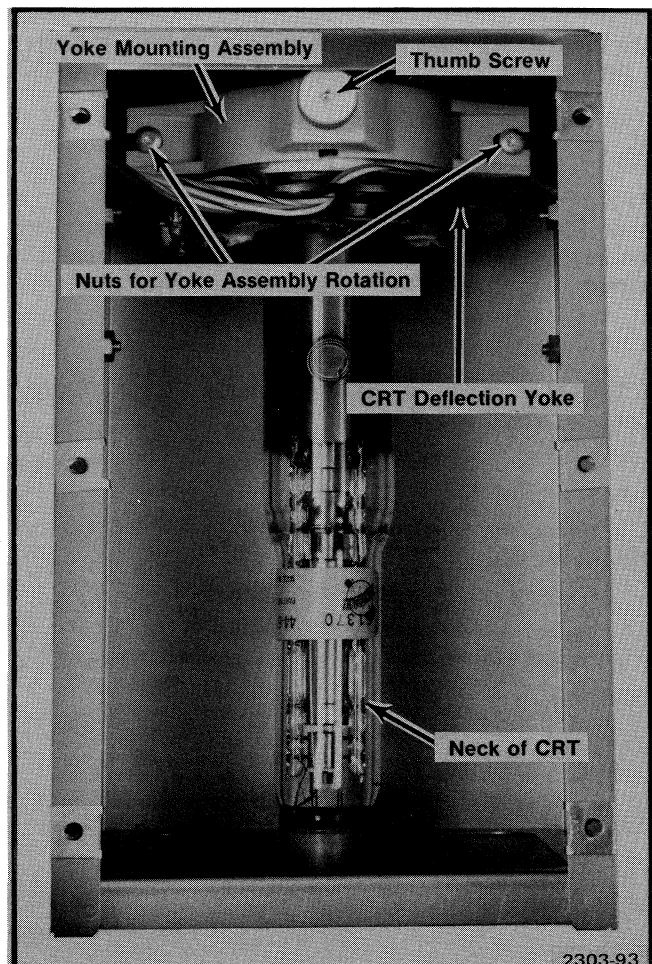

Fig. 4-20. Deflection Yoke Assembly.
c. Loosen (do not remove) the single knurled nut allowing rotation of the Deflection Yoke mounting assembly (see Fig. 4-20).